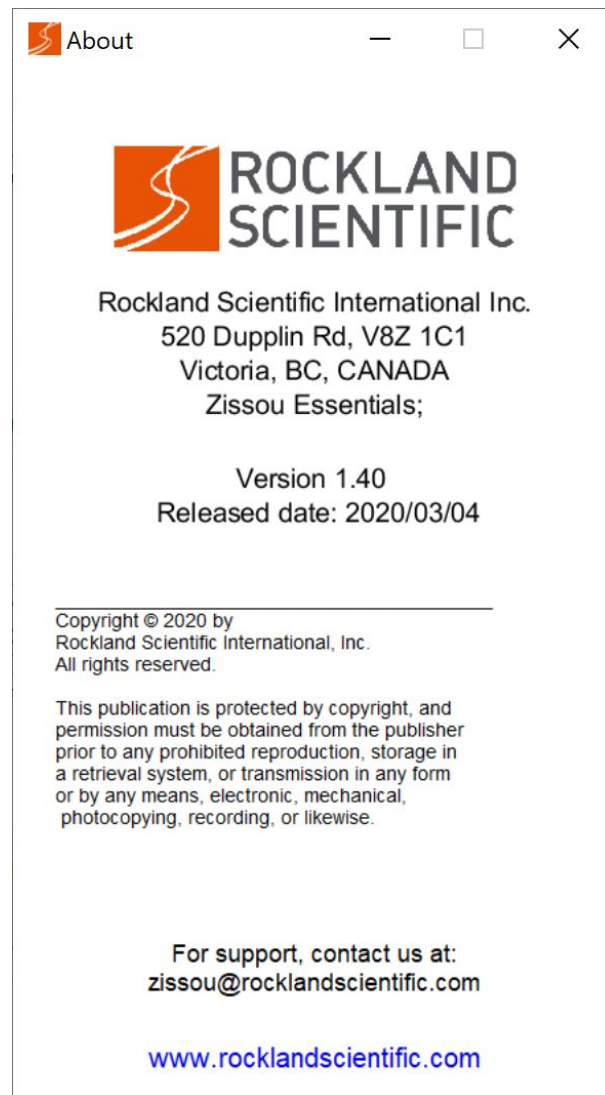

Figure 29: Zissou About page. The two link at the bottom of the window lead respectively to a Zissou Essentials feedback form and the Rockland website.
- The specific version of your copy of Zissou Essentials. You can find your version number through *Help* → *About Zissou* where your version number is highlighted in Figure 29.